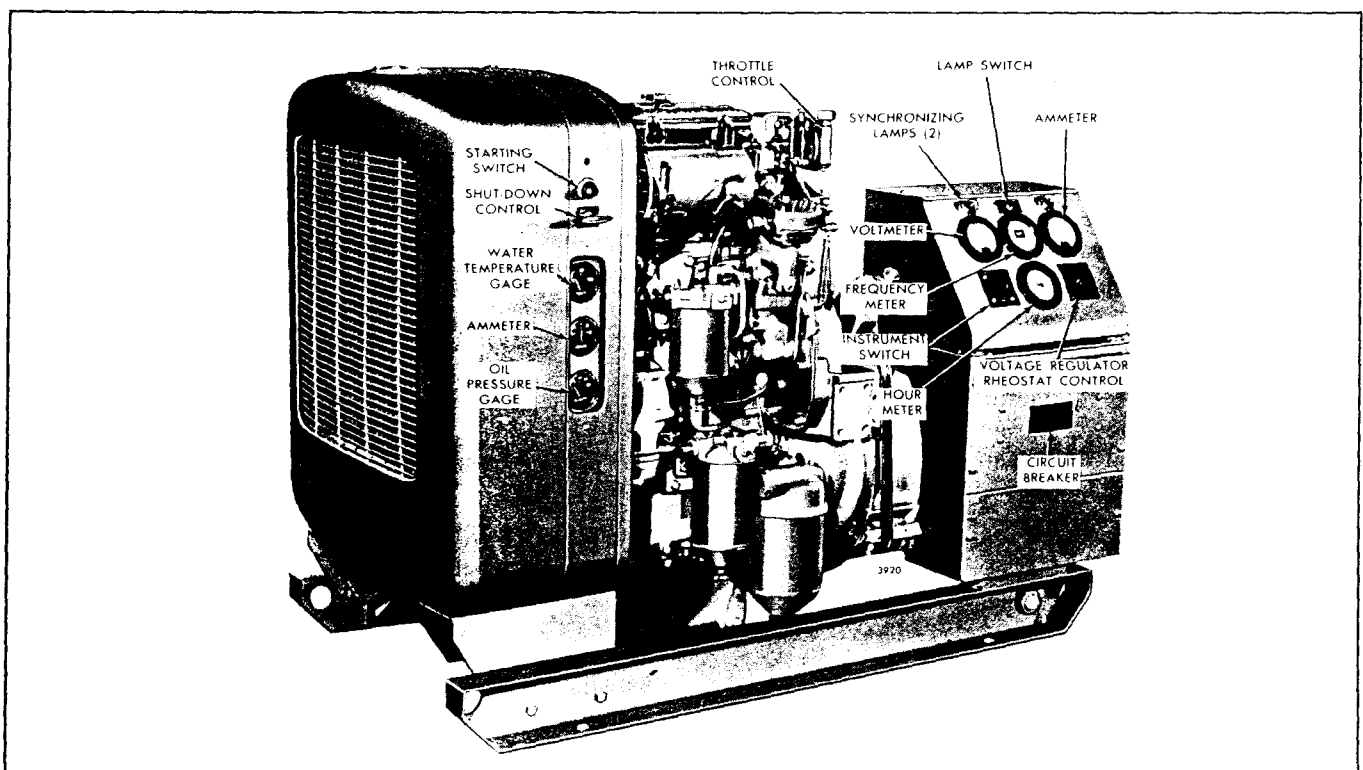

Fig. 1 - Location of Controls on Power Generator Set
These instructions cover the fundamental procedures for operating an alternating current power generator set (Fig. 1). The operator should read these instructions before attempting to operate the generator set.
4. Refer to Fig. 1 and place the circuit breaker in the **off** position.
Press the throttle button and turn the throttle control (Fig. 1) counterclockwise to a position midway between **run** and **stop**. Then press the starting switch firmly.
1. Prepare the generator set to be paralleled as outlined under *Preparation For Starting*, *Starting Running* and items 1 through 4 under *Preparing Generator for Load*.
2. Check the voltmeter (Fig. 1); the voltage must be the same as the line voltage. Adjust the voltage regulator rheostat control if the voltages are not the same.